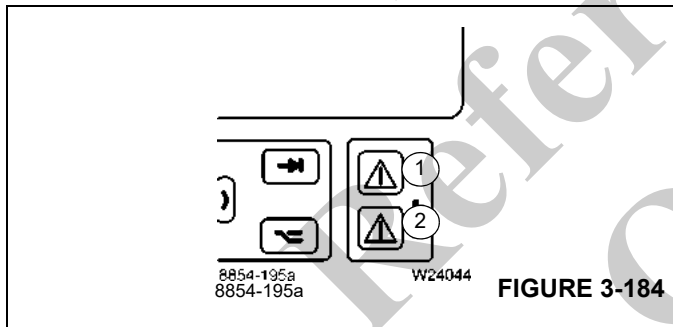

FIGURE 3-184
Amber Indicator on solid (2), (Figure 3-184)	Degree of utilization 90 – 100% – buzzer tone pulsates